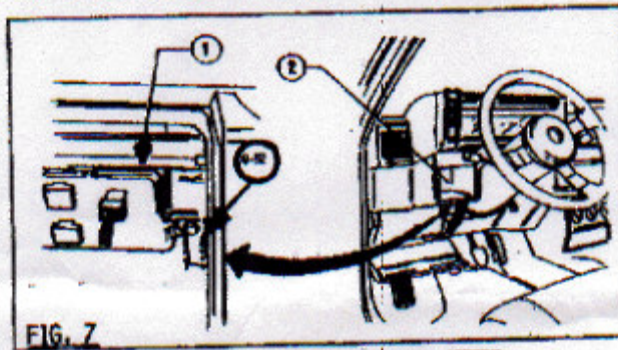
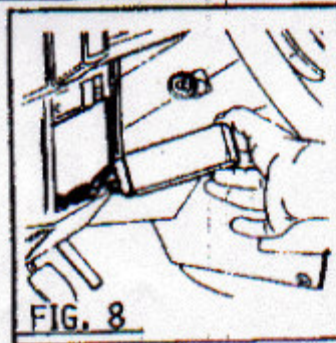

FIG. 7
FIG. 8
- 7) Connect the free end of the 14 ga. black wire in the modification harness to grounding bus-bar "G-52" located behind the fuse box on the firewall. (Fig. 7).
- 8) Remove the storage box from the left side of the dash by putting your hand inside of the box, pushing up and pulling out. (Fig. 7, Item 2). Then remove the 8mm. nut securing the door lock relay bracket to the dash brace which runs just above the fuse box. (Fig. 7, Item 1). Now you will be able to withdraw the door lock relay and bracket through the storage box opening. (Fig. 8). Mount the headlight relay to the door lock relay bracket using the top mounting screw of the door lock relay.